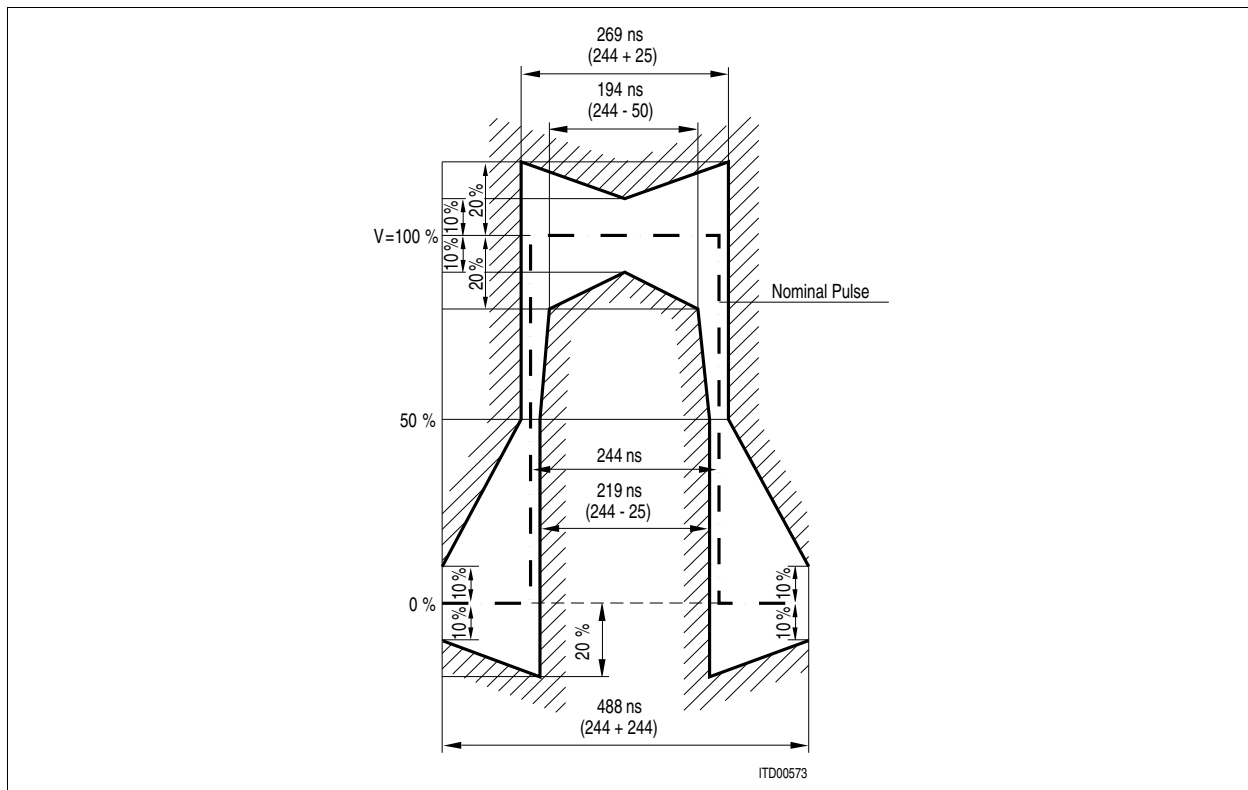

Figure 55 E1 Pulse Shape at Transmitter Output
- For E1: ITU-T G703 11/2001, figure 15 (for 0 m cable length), see Figure 55; ITU-T G703 11/2001, figure 20 (for DCIM mode). For measurement configuration were $R_{load} = 120 \Omega$ or $R_{load} = 75 \Omega$ see Figure 32.
With the given values in Table 25 or Table 27, for transformer ratio: 1 : 2.4, cable type AWG24 and with $R_{load} = 120 \Omega$ the pulse mask according to ITU-T G703 11/2001, see Figure 55, is fulfilled.